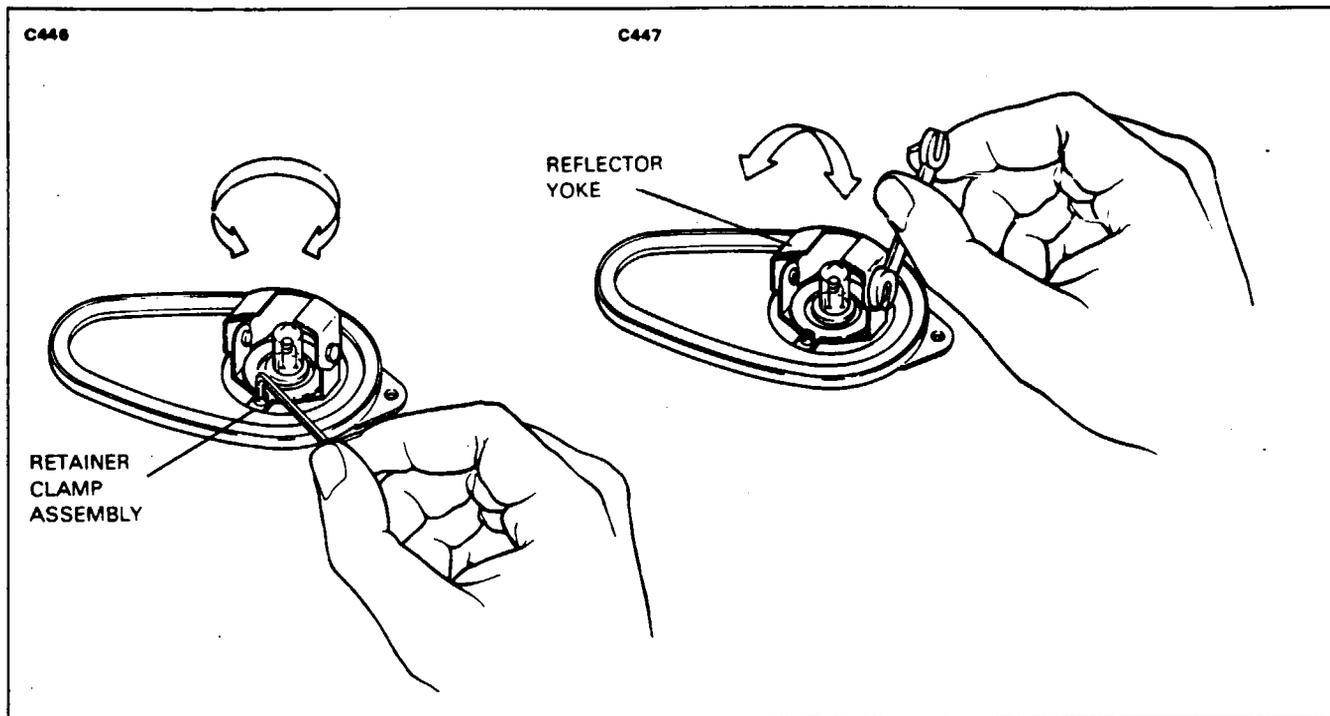

Figure 33-2. Logo Light Assembly Adjustments
**LOGO LIGHTS ADJUSTMENT. (Refer to Figure 33-2.)**